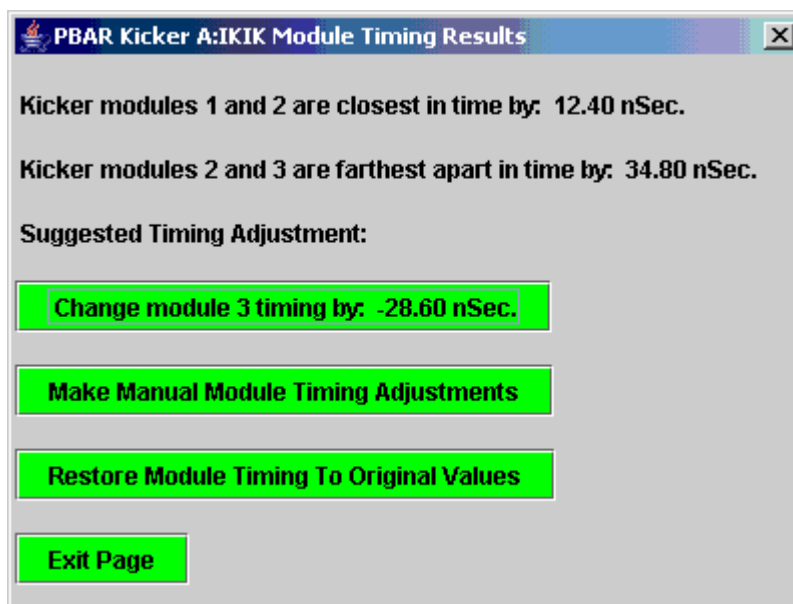

Figure 34: The results and suggested timing change are displayed on another popup window.
14. The Timing Results window (see Figure 34) presents the results and suggested tuning options. If the changes look reasonable, then make the suggested changes. It is normal to make ~200nsec changes.